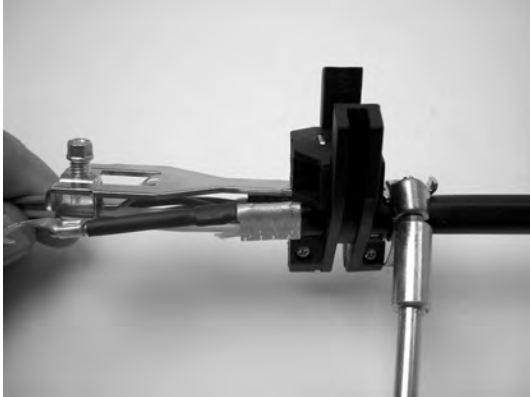

Fig 8
8. With appropriate size hose clamp handy, install both sections of the cable retention and SMB around the cable. Install and tighten the hose clamp such that the teeth fully seat into the cable assembly. Do not overtighten the clamp to the point that it deforms. A 1/4" nut driver is supplied in the kit to tighten the hose clamp (Fig. 8).
**Note:** If a ground wire is present position the assembly as close to the ground as possible (towards the ring cut). The end of the strength member should be just inside the end of the strength member fork so the lug captures the end of the strength member. (Figure 8)